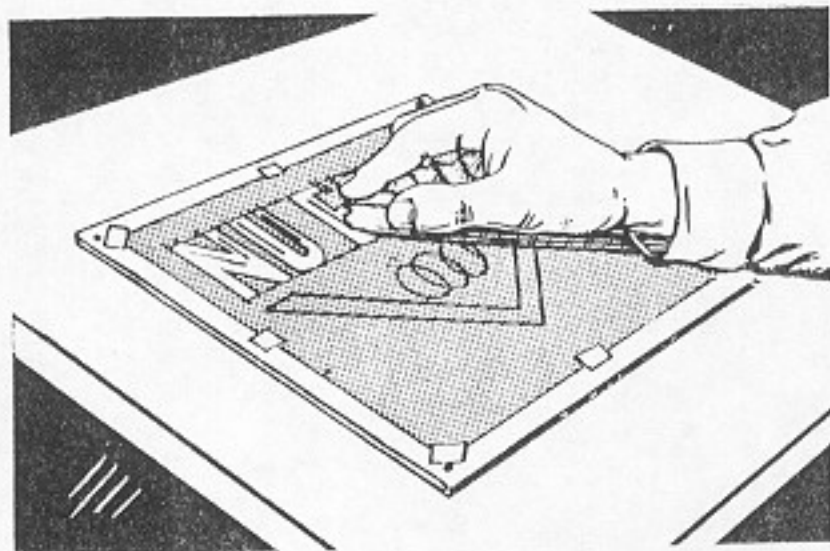

Fig. 124. Slit Backing Sheet to Allow Air to Escape During Adhering
is adhered, Fig. 124.
9. If there are large open areas in the design, cut a small slit through the backing paper to let the air escape during the adhering operation, Fig. 124.